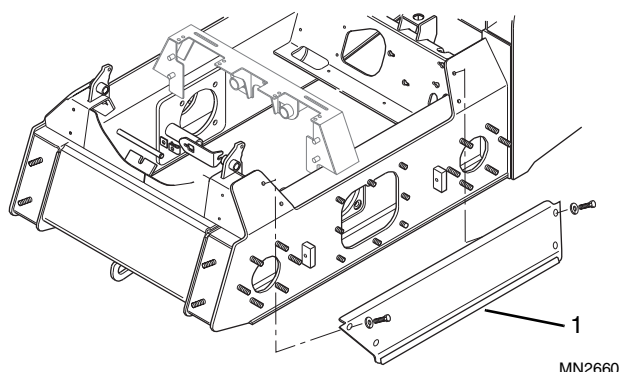

Figure 9-24 Chassis Panel Installation
29. Replace the left (Fig. 9-24, 1) and right (not shown) side panels on the chassis.